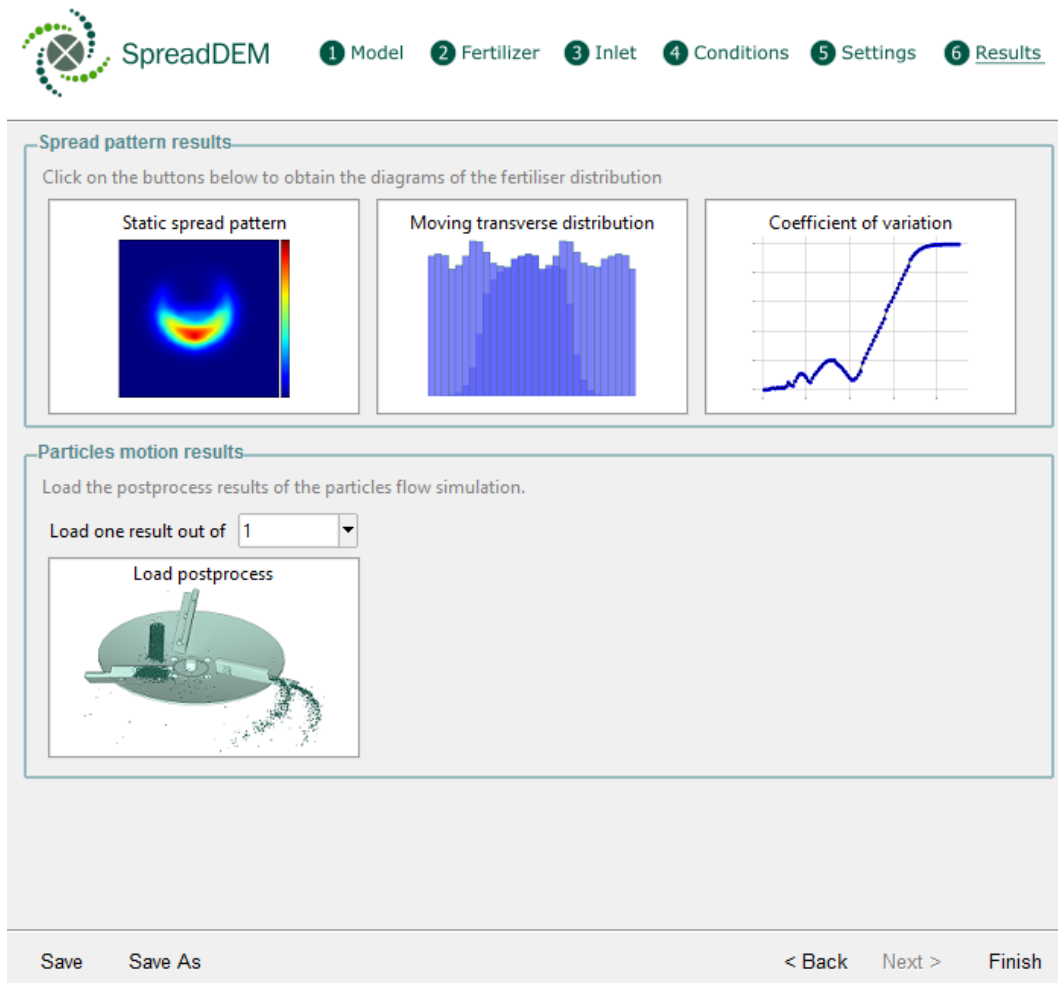
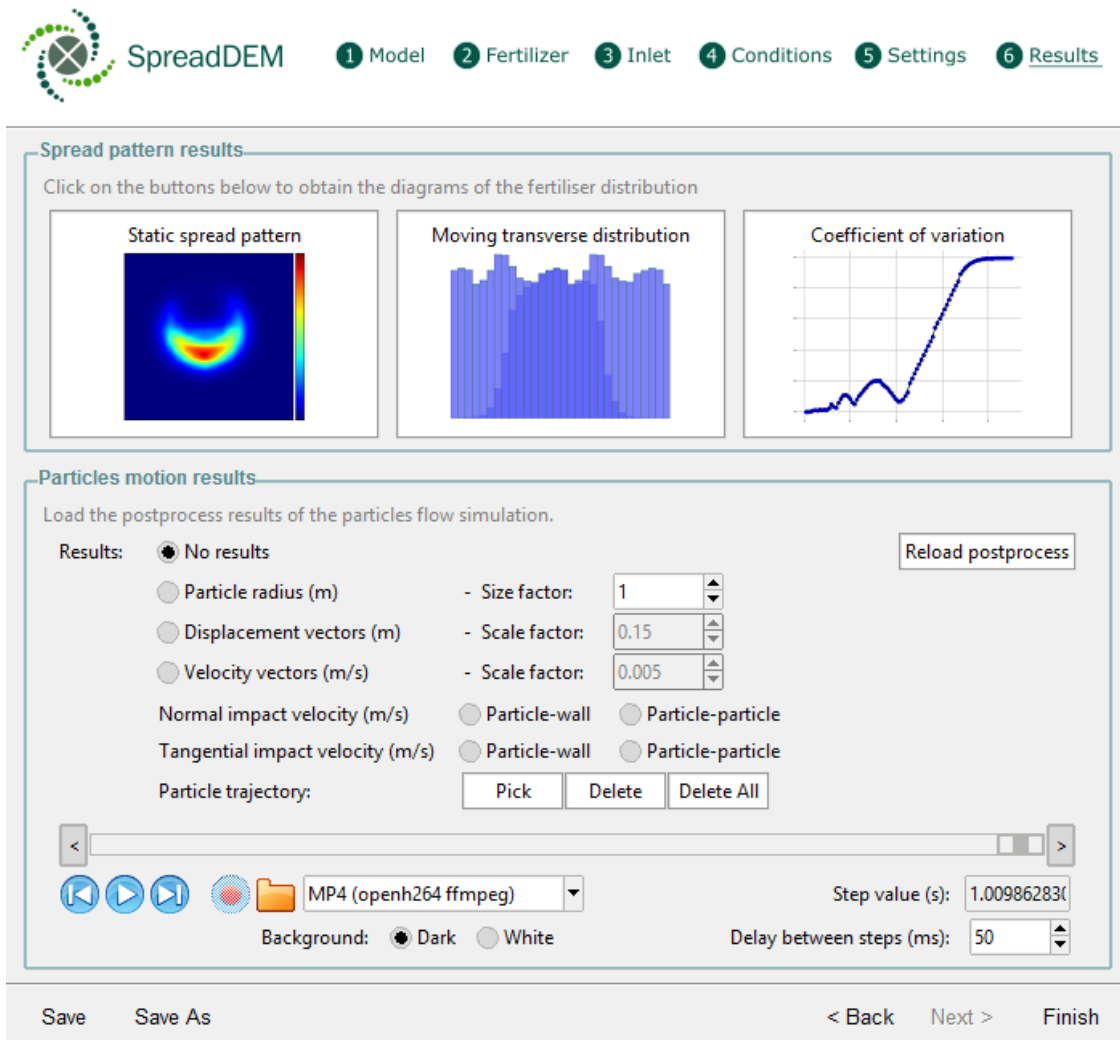

Figure 34. Step 6: Results.
Figure 41. Postprocess results window.
In this step you can obtain and analyze the results of the simulation (Figure 34). It is not necessary to wait until the calculation is finished, since you can load the results at any moment of the simulation process.
- Load postprocess:** the postprocess can be loaded either one simulated step by one, or one out of 5, 10, 20, etc. This is because some cases can become too big to be loaded. Once you have selected the correspondent option on the drop-down list, you can proceed by clicking on “Load postprocess” button (Figure 34). After loading the simulation results, the same window will be updated to show the new options available (Figure 41).